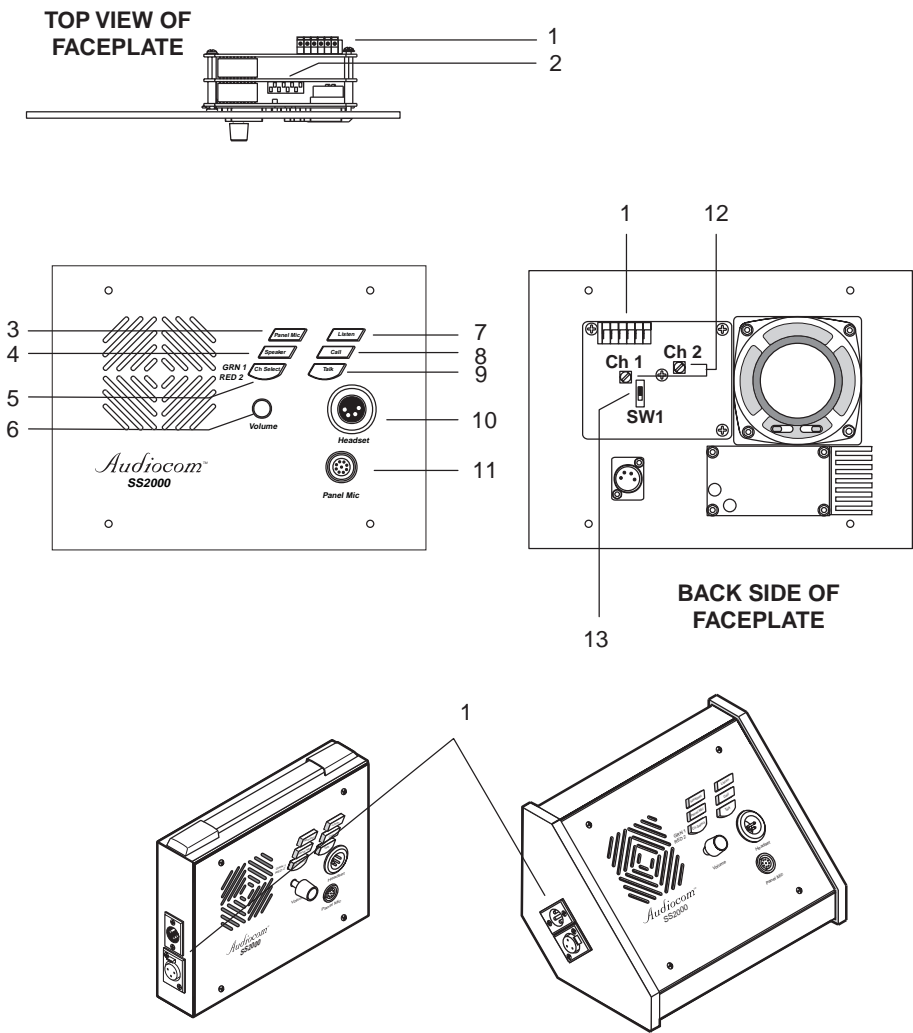

Figure 2. Reference view for controls, indicators and configuration switches. (The numbered items refer to the features list.)
Before making connections, read the configuration notes that follow, and make sure that all internal controls are properly set for your intended usage. If you need to access the internal controls, remove the four screws on the front that secure the intercom station faceplate to the mounting box, then lift out the faceplate. Figure 2 shows the locations of the internal controls.
### DIP Switches (Figure 2, item 2)
For Audiocom setup, leave this switch in the open position, and also leave the Balanced / Unbalanced switch (Figure 2, item 13) in the Balanced position. For Clear-Com setup, set DIP switch 2 to the closed position and set the Balanced / Unbalanced switch in the Unbalanced position.
**Balanced/Unbalanced Switch (Figure 2, item 13)**
**Sidetone Trimmers (Figure 2, item 12)**